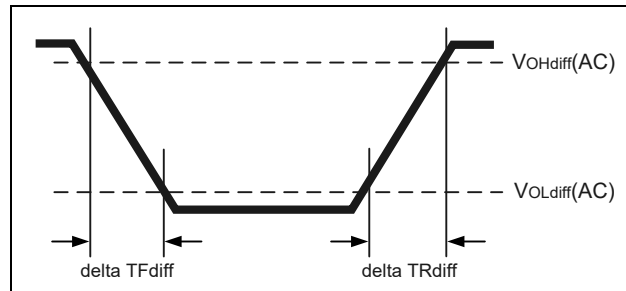

Figure 192 – Differential Output Slew Rate Definition
With the reference load for timing measurements, output slew rate for falling and rising edges is defined and measured between VOLdiff(AC) and VOHdiff(AC) for differential signals as shown in Table 95 and Figure 192